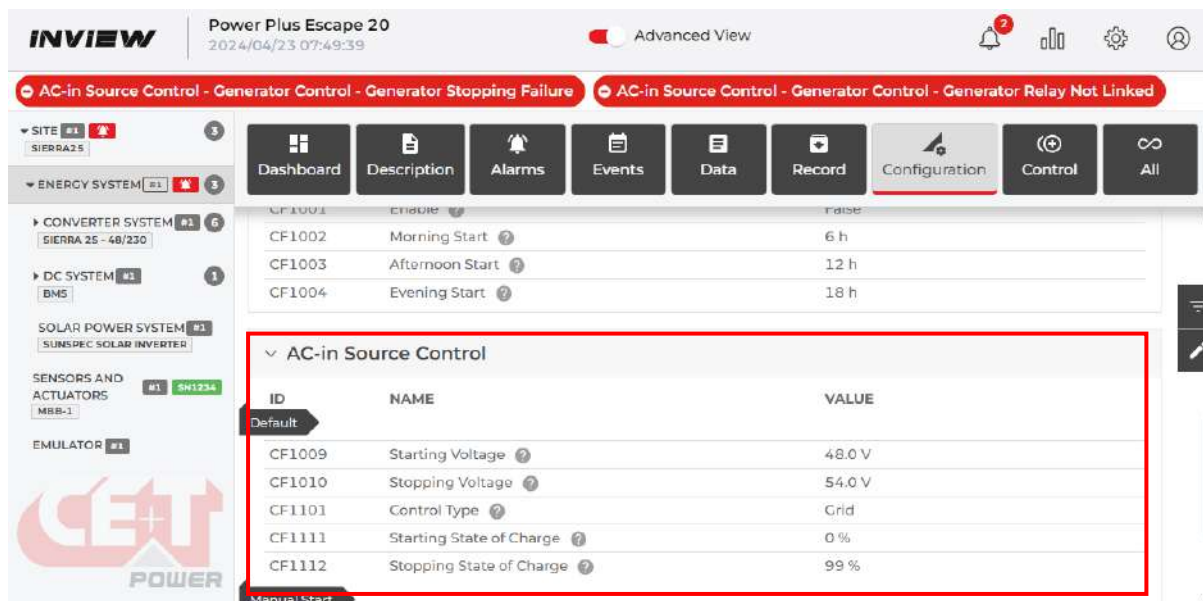

Figure 31- AC In Control Menu
- 4- Once the AC In Control function is enabled, a new menu will pop up as shown in Figure 31- AC In Control Menu.